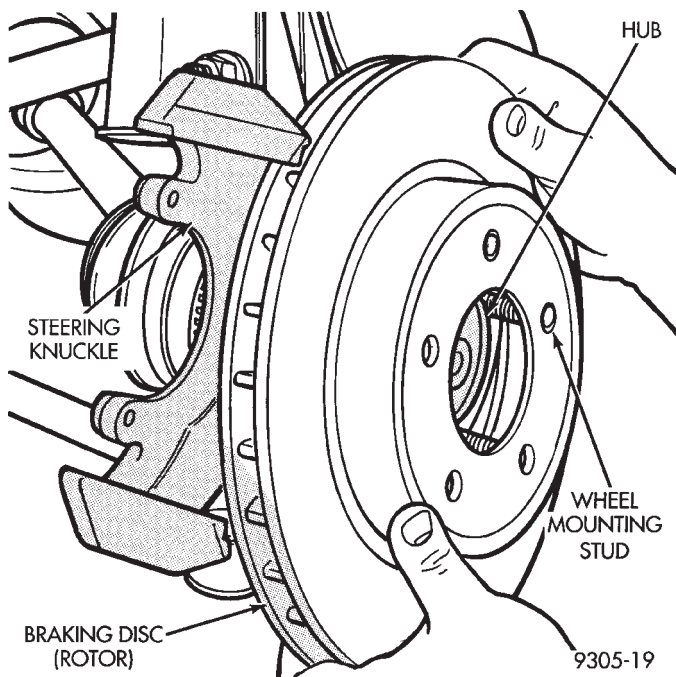

Fig. 33 Removing Or Installing Braking Disc
(7) If required, remove rotor from hub by pulling it straight off wheel mounting studs (Fig. 33).
(1) Completely retract the caliper piston back into the piston bore of the caliper, if new brake shoes have been installed.
(2) If removed, install rotor on hub (Fig. 33).